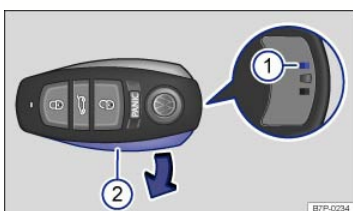

Fig. 19 Removing battery cover from the remote control vehicle key.
The battery is in the remote control vehicle key under a cover ⇒ Fig. 19. When changing the battery, pay attention to the correct polarity and use the same type of battery ⇒ ①.
- Insert the end of a bent paper clip (or other suitable object) into the opening ⇒ Fig. 19① on the back of the remote control vehicle key as far as it will go. Then press it down and towards the outer edge of the remote control vehicle key fob.
- Remove the paper clip and remove the cover ② in the direction of the arrow.
- Insert the thin left side of the cover ⇒ Fig. 19② in the remote control vehicle key and press the thick right side down until the cover locks into place.